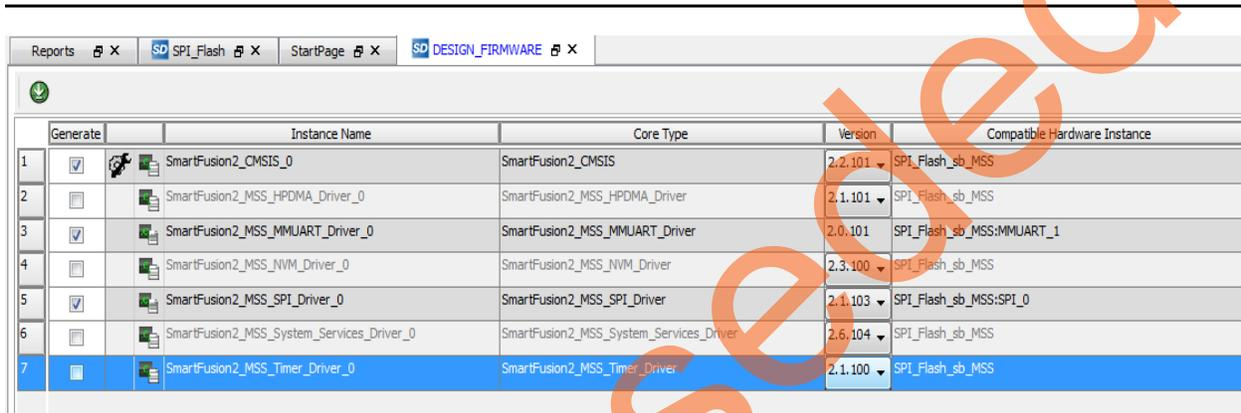

Figure 17 • Configuring Firmware
2. Clear all the drivers check boxes, except **CMSIS**, **MMUART**, and **SPI**, as shown in Figure 17.